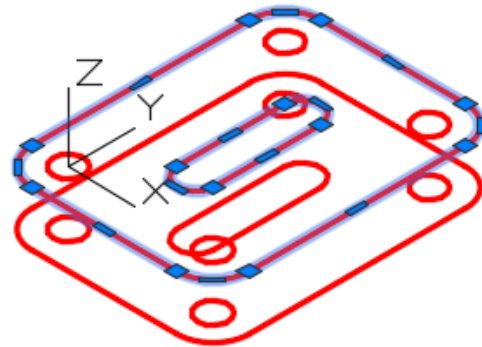

Figure Step 7
Step 7 Using what you learned earlier, use the PEDIT command to convert the lines and arcs to closed polylines. Check the objects with the Properties window to ensure that they are closed. (Figure Step 7)